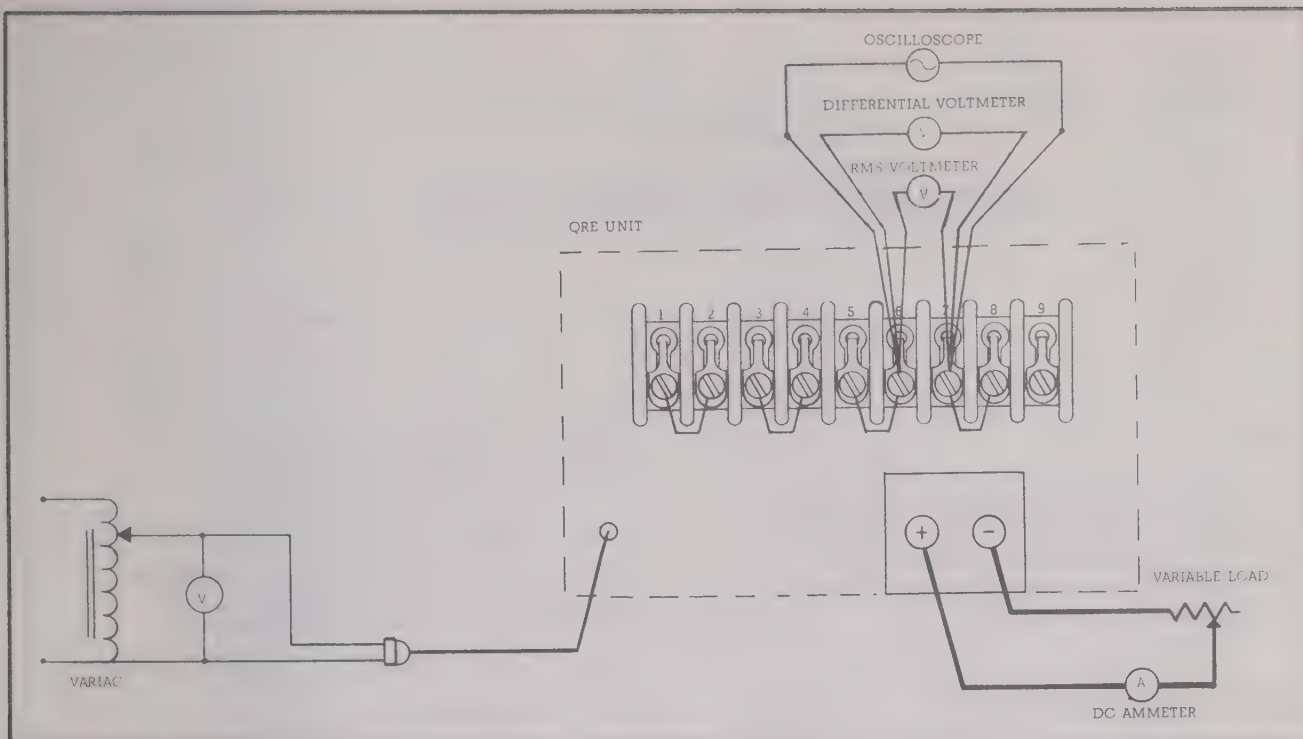

Figure 5-5. Performance Test Set-up
a. Connect a test set-up as shown in Figure 5-5. Set oscilloscope for 0.5 mV vertical and 10 ms/cm horizontal. (Oscilloscope should have at least a 30 MHz bandwidth). Select a 150 V range for a-c voltmeter. Choose a 0.5-mV range for RMS meter and 60-A range for d-c ammeter. The Variac should be capable of supplying 105 to 125 Vac at 13 A. Use a resistive load with a current drawing capacity of at least 55 A. Use differential voltmeter as a TVM (or VTVM). Select a 15-volt range.
Figure 5-5. The oscilloscope and RMS voltmeter are not necessary. Convert the differential voltmeter to act as a precision potentiometer. Select an internal voltage equal to 7.5 volts, and set the null sensitivity to the 10-mV range.